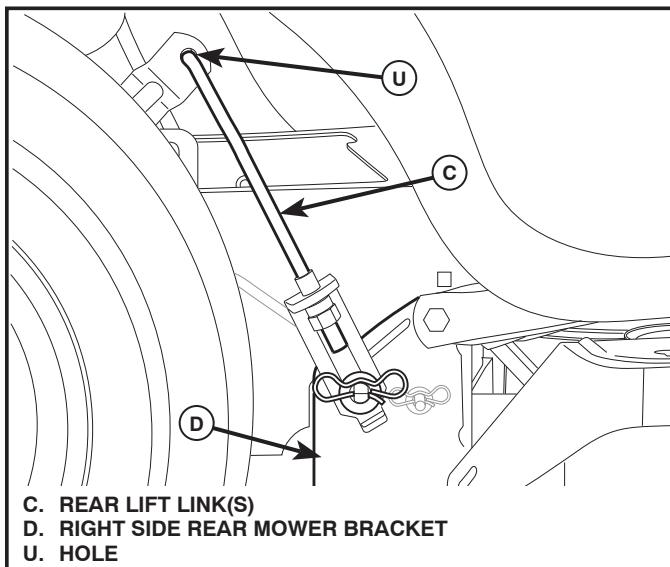

Fig. 31
7. ATTACH REAR LIFT LINKS (C) (See Fig. 31)
- Insert rod end of rear lift link (C) into hole (U) in tractor lift shaft suspension arm and pivot link down to mower.
- Lift rear corner of mower and position slot in link assembly over pin on rear mower bracket (D) and secure with large washer and large retainer spring.
8. ATTACH FRONT LINK (E) (See Fig. 31)
- From front of tractor, insert rod end of front link (E) through front hole in tractor front suspension bracket (F).
- Move to left side of mower and and insert large retainer spring (G) through hole in front link (E) behind front suspension bracket (F).
- Insert other end of link (E) into hole in front mower bracket (H) and secure with washer and small retainer spring (J).